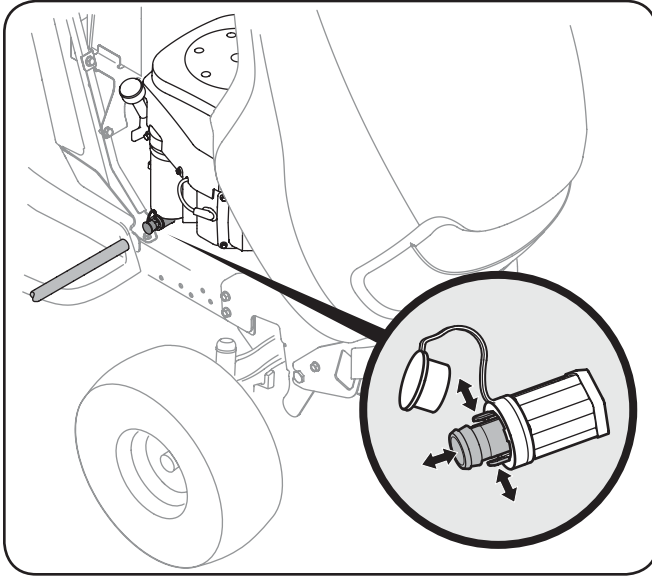

Figure 6-1
3. Pop open the protective cap on the end of the oil drain valve to expose the drain port. See Fig 6-1.
6. Pinch the tab on the oil drain valve, then pull outward to begin draining oil. See Fig 6-1.